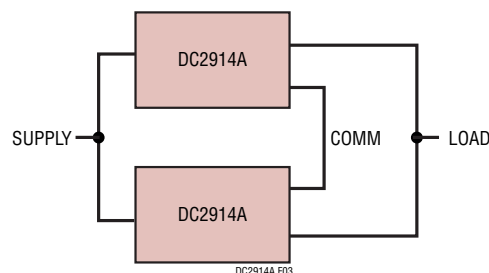

Figure 3. Multiple LTC4238 Connected Using COMM Pin to Share Load
1. **COMM Pin:** DC2914A showcases COMM pin scalability of LTC4238. Connect multiple DC2914A boards using the COMM pin to ensure they work in tandem as shown in Figure 3. When connected in parallel, only TMR capacitor on master board is required and remaining TMR pins can be grounded while using constant current timer. All boards need their individual FET-bad capacitors (and RC-network for SOA timer if used).